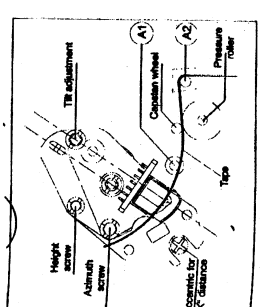

Fig. M13
- Adjust the TRV signal on an oscilloscope (DC-coupled) and set the maximum voltage by means of the azimuth screw (Fig. M13).